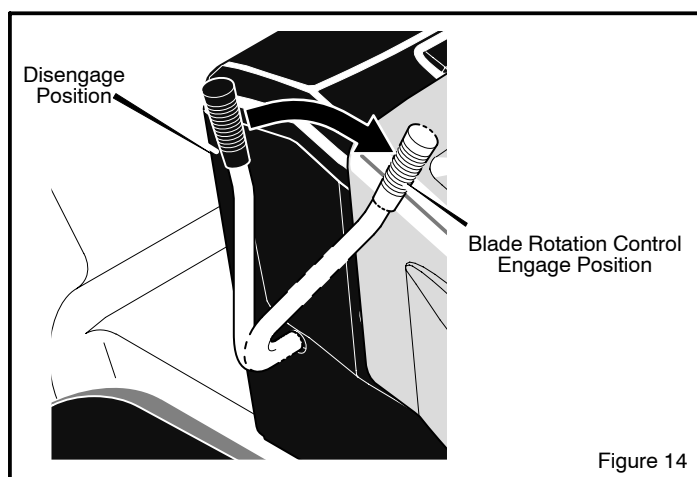

Figure 14
2. Move the **blade rotation control** to the **DISENGAGE position** (Figure 14).